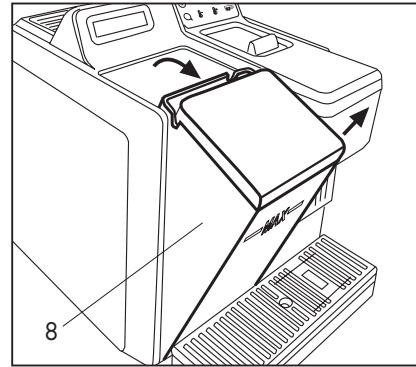

Fig. 1
- To extract the tank, lightly press the top, slide and turn it outwards. Lift the tank upwards once it is disconnected from the compartment. **(Fig.1)**